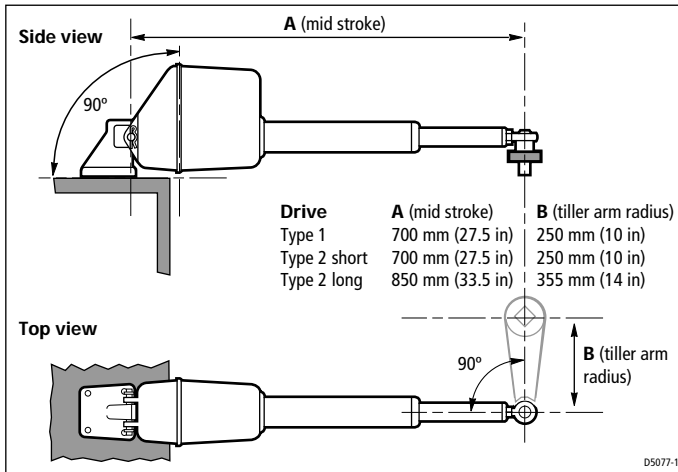

Figure 4: Drive unit alignment
- The main drive assembly must be at right angles to the mounting surface (see *Figure 4*).
- The drive unit must be at right angles to the tiller arm when the rudder is amidships (see *Figure 4*).
Use the supplied tiller pin assembly to attach the rod end to the tiller arm, at the tiller arm radius shown in *Figure 4*.
Note: *If necessary, you will need to drill a 13 mm (0.52 in) hole in the tiller arm at the radius shown in *Figure 4*.*